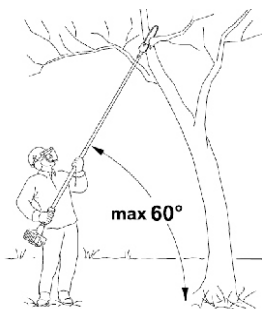

Fig. 23b
- c). Always hold the product at an angle of not more than 60° from the horizontal level. Otherwise safe operation is not possible. (See Fig. 23b)